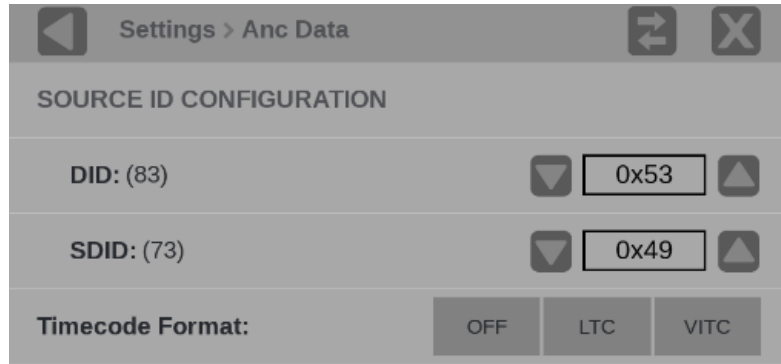

Figure 58: Reference configuration Anc Data
2. Select **Anc Data** to open the Anc Data submenu. (See Figure 58.)